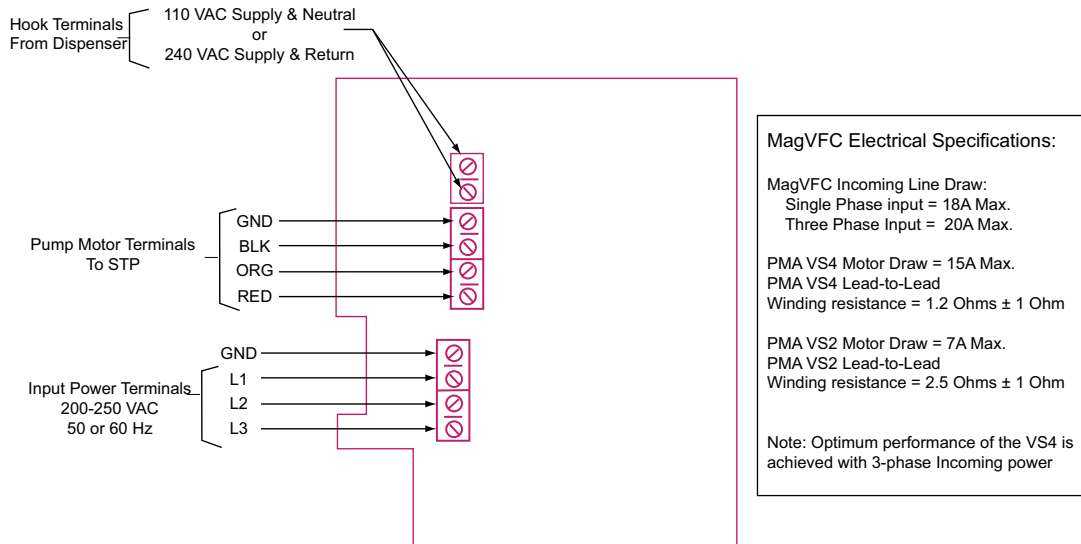

Figure 1: MagVFC Wiring
- Refer to Figure 1. Connect the three motor control wires from the pump junction box to labeled terminals observing color coding of wires (Black to Black, Orange to Orange, Red to Red). Connect the ground wire from the submersible pump to the ground lug on the *MagVFC* circuit board.
- Connect three phase, 200-250V, 50 or 60Hz power supply to terminals to L1, L2 and L3. Reference Figure 1 for wiring details.
Note: The *MagVFC* may be connected to single phase power only if used with FE Petro pump motor model PMA VS2 with input power connected to L1 and L2. Refer to Figure 1 for wiring details.
- Connect dispenser hook signal to the two position terminal block on the *MagVFC* board as shown in Figure 1.